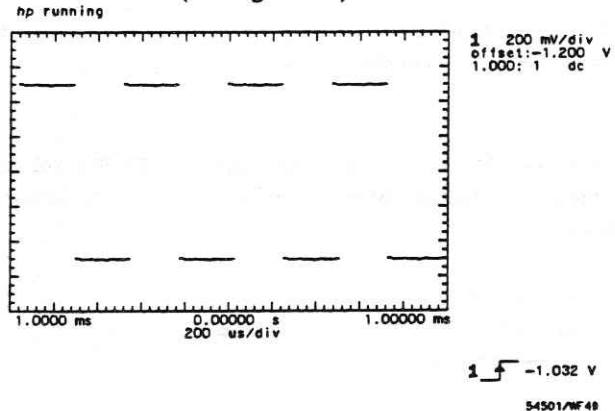

Figure 4-2. Input Signal for Window Viewing
- - Press AUTOSCALE (see Figure 4-2).